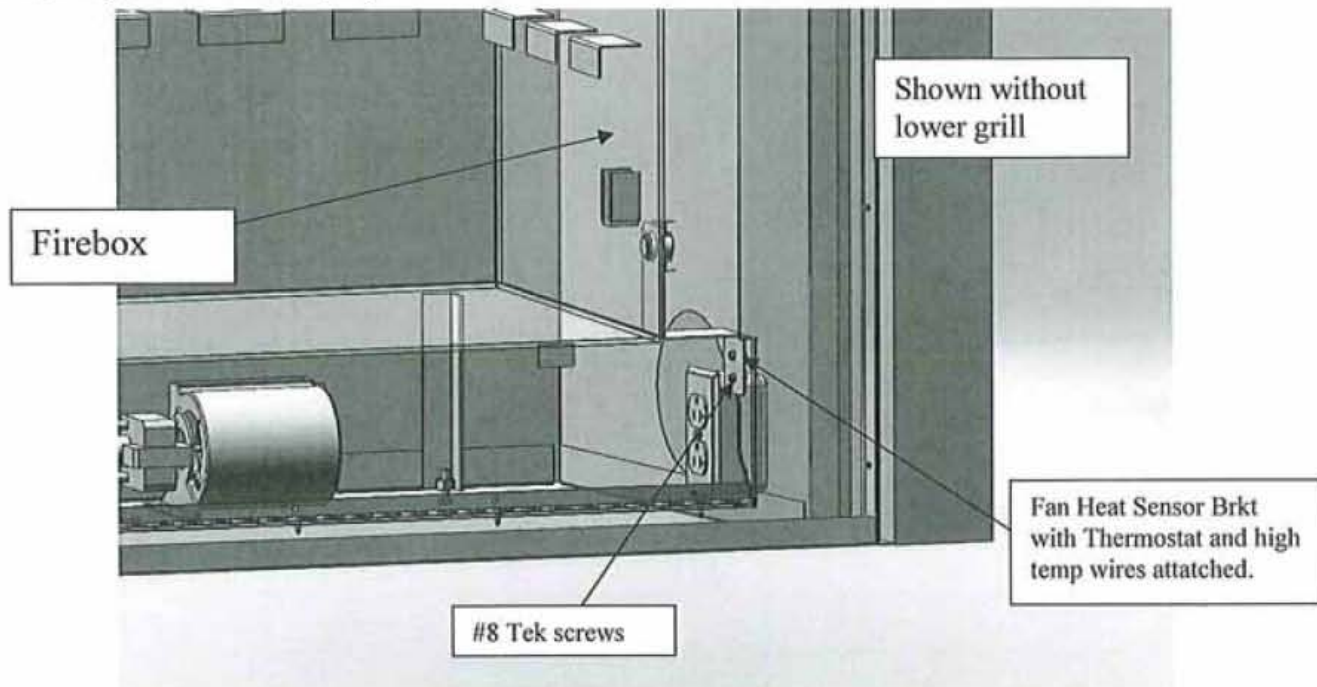

Figure 28
- 4) Slide the Thermo-Disk bracket up the inside of the fireplace so that the disk is located against the firebox as shown in Figure 28. The bracket should be raised just enough to hide the horizontal portion of the bracket and up against the right flange of the lower grill housing.
NOTE: If the Thermo-Censor does not kick in after 20-30 minutes after the fire is going, check to make sure that the censor is up against the side of the firebox as shown in Figure 28. Check all electrical connections to make sure that everything was installed properly.